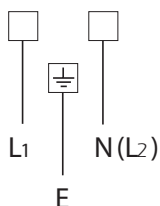

Figure 4
- *Connect the new supply cable, of suitable type and section, to the terminal board following the diagram in Fig. 4.*